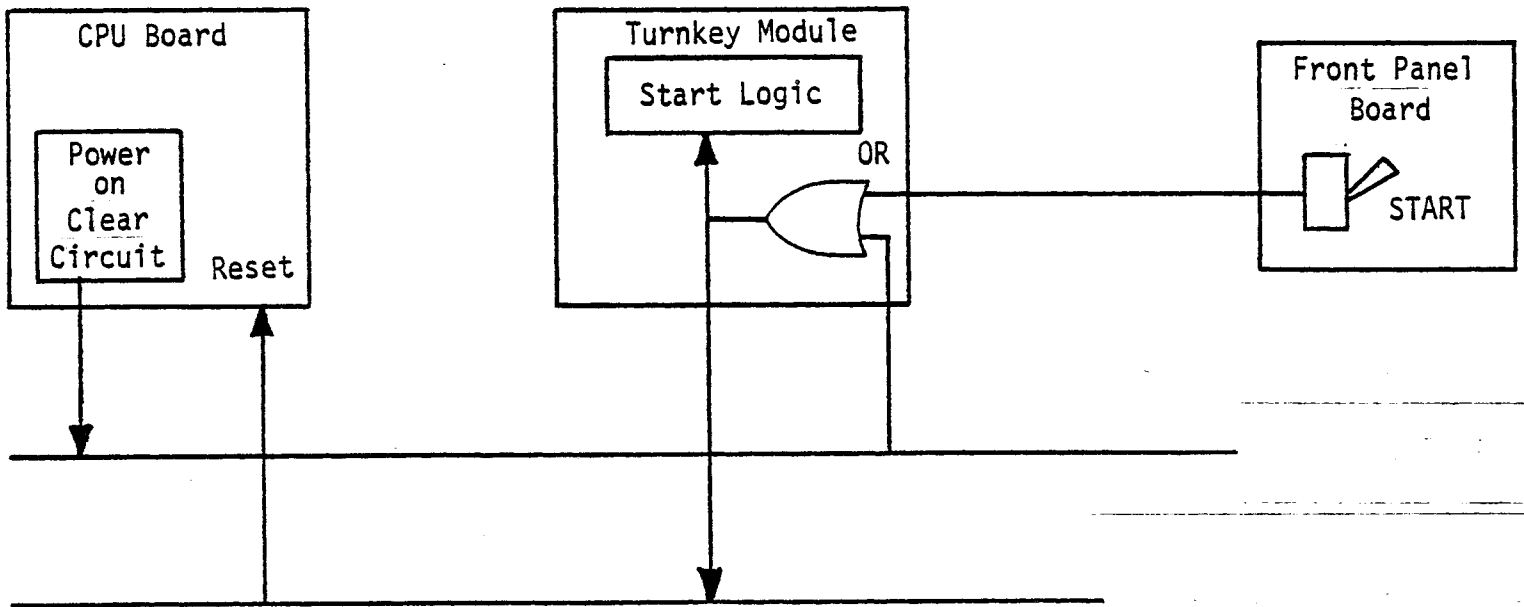
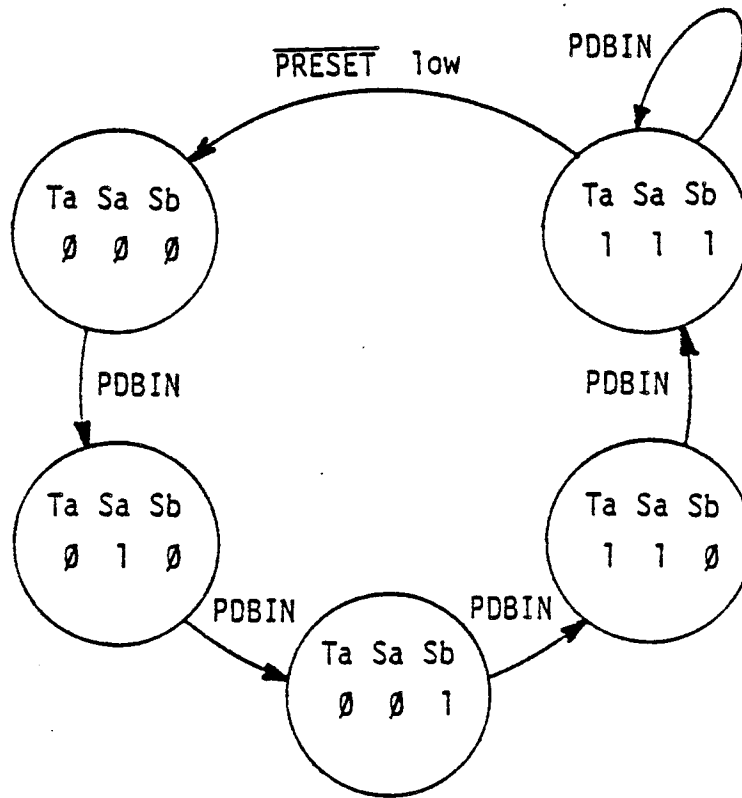

Figure 2-5
Figure 2-6
B. AUTO-START. The AUTO-START logic causes the computer to jump to the address designated by the AUTO-START switches when the power is turned on or the START switch is actuated. Figure 2-5 shows the arrangement of the AUTO-START logic. The switches represent the variable byte in a JMP instruction. The JMP instruction is generated by a multiplexer, ICs M and N, which is controlled by flip-flops Ta, Sa and Sb. The flip-flops are cleared by PRESET, a bus signal derived from POC or generated by the START switch on the front panel. Subsequent PDBIN pulses cause the flip-flops to change from one state to the next as shown in the sequence diagram, Figure 2-6. The pulses generated by the flip-flops cause the multiplexer to choose one of three possible bytes; 303 octal, 000 octal or byte designated by the AUTO-START switches.